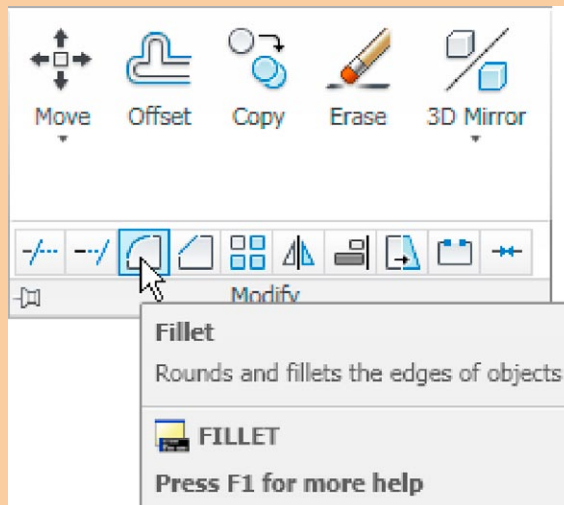

Fig. 12.31 The **Fillet** tool icon in the **Home/Modify** panel
5. Click the **Fillet** tool icon in the **Home/Modify** panel (Fig. 12.31). The command line shows: